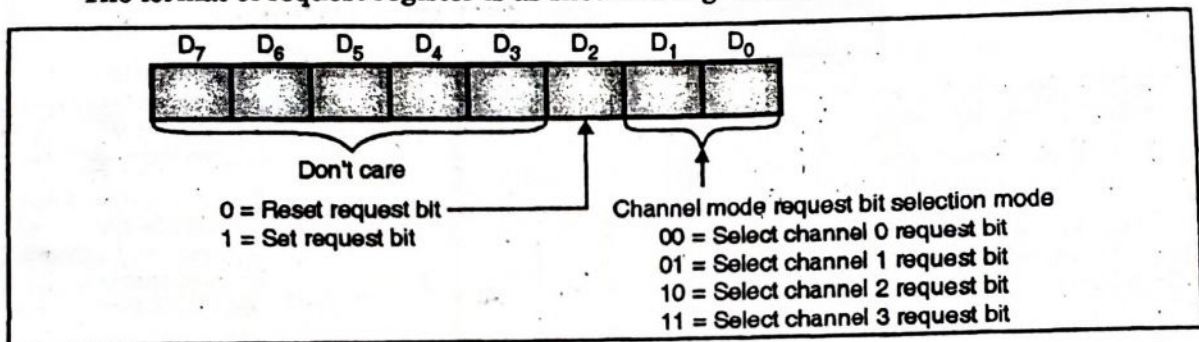

Fig. 17.5.6 : Request register
- In memory to memory transfer, the software request for channel 0 should be set. The format of request register is as shown in Fig. 17.5.6.